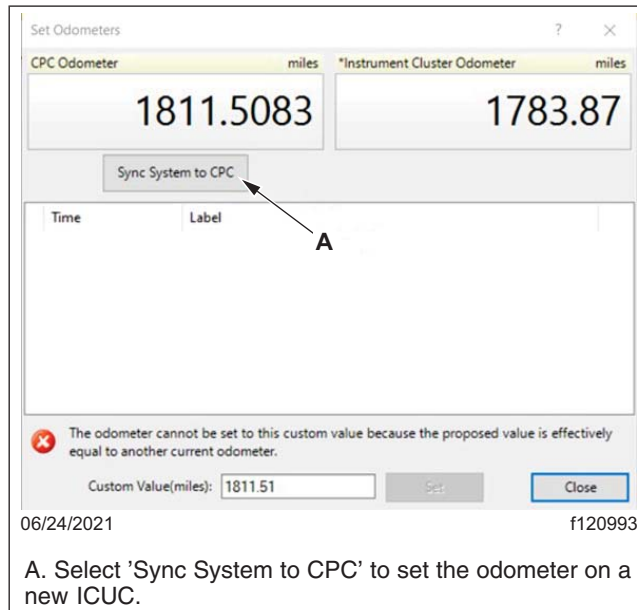

Fig. 16, Setting the Odometer on the New ICUC
20. Select 'Sync System to CPC' to set the odometer on the new ICUC. See Fig. 16. After syncing, the values in the 'CPC Odometer' and 'Instrument Cluster Odometer' will match (rounded to the second decimal place).